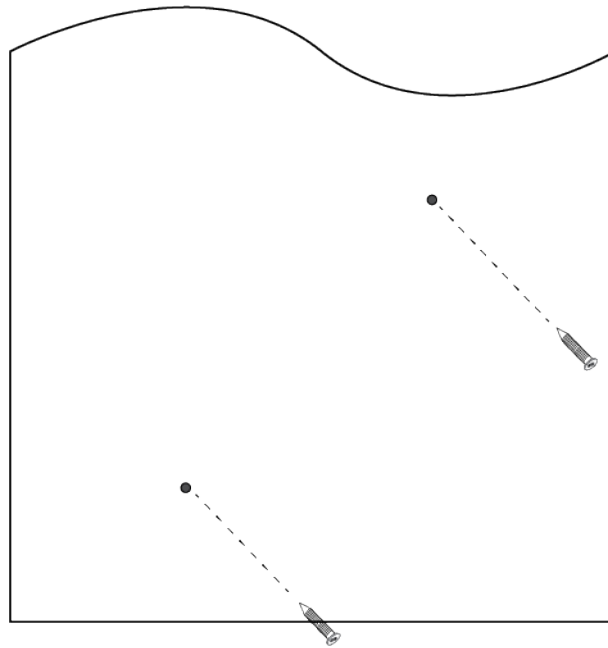

Figure 18. Installing Two Screws
5. Install two M4 screws and anchors (if required). Leave the screws loose enough so that the bracket can slide under the screw heads. Refer to Figure 18.